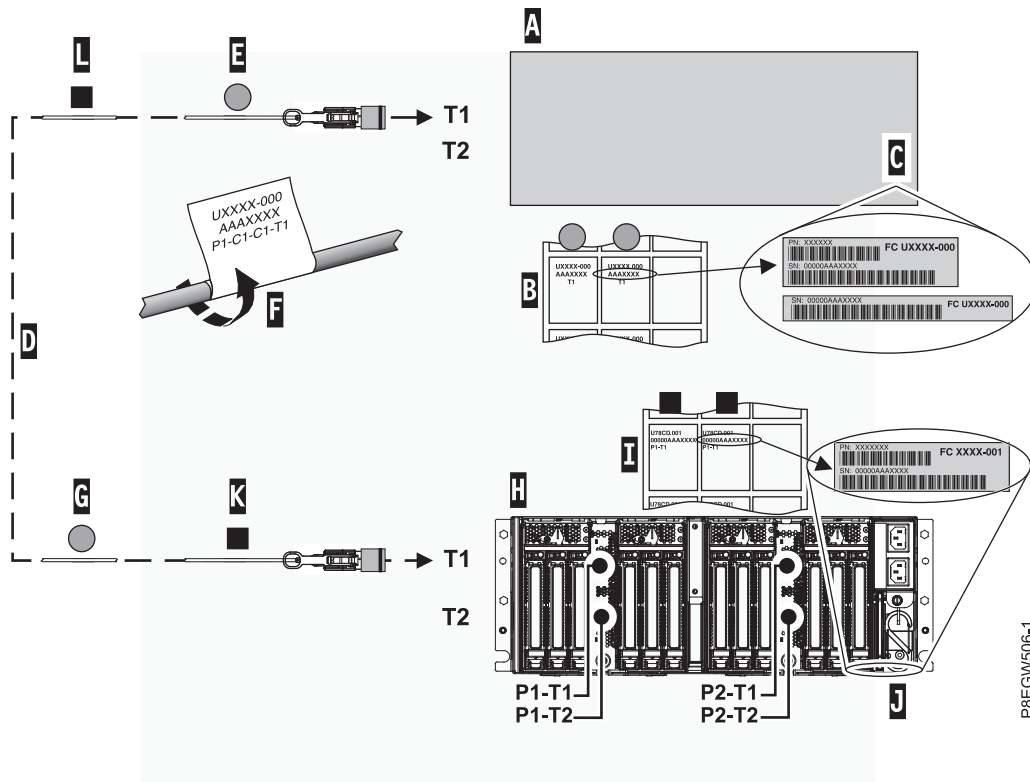

Figure 15. Labeling an expansion drawer cable
**Note:** While you are completing these steps, refer to Figure 15 on page 19 as a reference.
- g. Attach the leftmost Cx-T1 label to the connector end of the cable **(E)**. See Figure 15 on page 19. Wrap the label with the blank end first so that the location information **(F)** is visible.
- h. Take the second label Cx-T1 from the host system label sheet **(B)** and place it on the opposite end of the cable that attaches to the EMX0 PCIe3 expansion drawer. Ensure that the label is placed more than 100 mm (4 in) from the end of the cable **(G)**. See Figure 15 on page 19.
**Note:** While you are completing these steps, refer to Figure 15 as a reference.
- a. Locate the EMX0 PCIe3 expansion drawer (H) that you are connecting to the host system.
- b. Locate the EMX0 PCIe3 expansion drawer serial number label sheet (I).
- c. Match the EMX0 PCIe3 expansion drawer serial number (J) to the serial number shown on the EMX0 PCIe3 expansion drawer label sheet (I).
- f. Attach the leftmost Px-T1 label to the connector end of the cable (K). See Figure 15. Wrap the label with the blank end first so that the location information (F) is visible.
- g. Take the second Px-T1 label from the expansion drawer label sheet and place it on the opposite end of the cable greater than 100 mm (4 in) from the end of the cable (L). See Figure 15.
- a. Locate the connector end of the cable with the host system Cx-T1 label (E) and place it near the T1 port on the PCIe3 cable adapter.
- b. Route the cable and place the connector end (K) near the I/O module on the EMX0 PCIe3 expansion drawer.